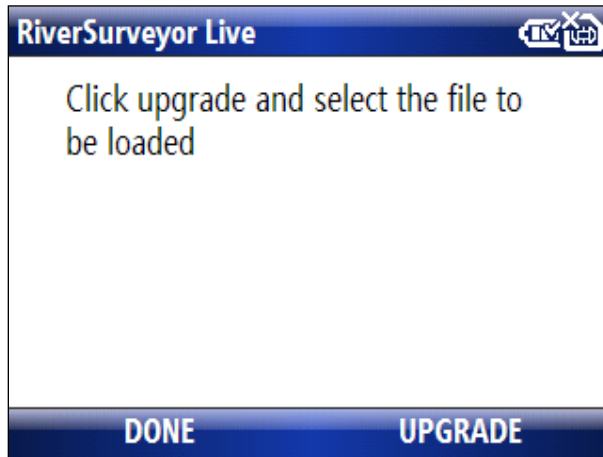

Figure 84. Utilities – Firmware Upgrade
Firmware Upgrade (Figure 84): This menu lets you update ADP firmware by selecting a firmware file (*.a79) stored in the phone's memory card (SD) or internal memory. Select UPGRADE and follow the on-screen instructions to install new firmware.